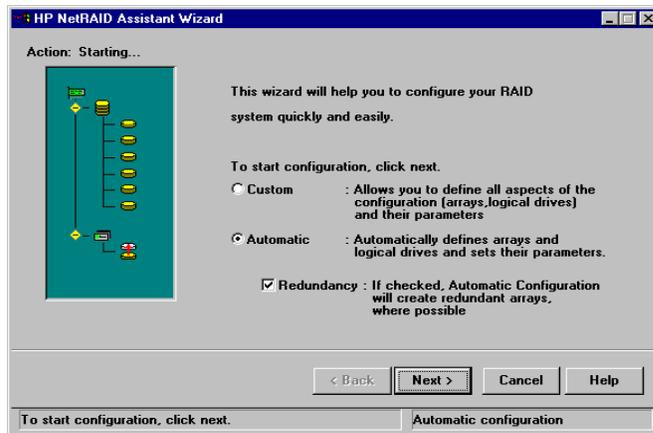

Figure 2-4. HP NetRAID Assistant Wizard Starting Window
2. Choose the **Wizard**. The Wizard starting window is displayed with a choice of Custom and Automatic configuration modes, as shown in Figure 2-4.